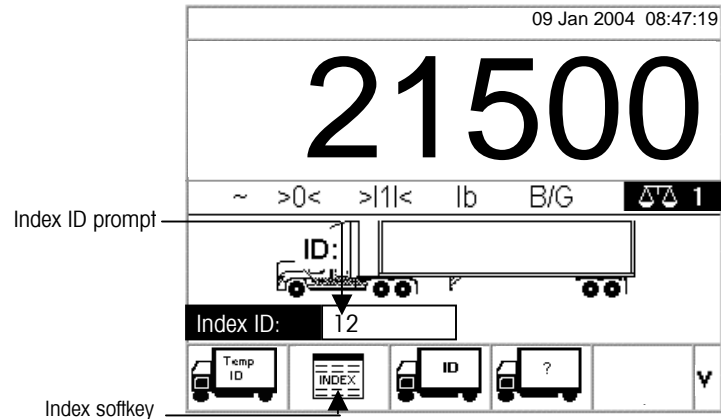

Figure 2-8: Weight Screen With Index ID Prompt
1. Once the vehicle is on the scale, press the INDEX softkey (Figure 2-8).
2. An Index ID prompt displays with a cursor in the ID field (see Figure 2-8).